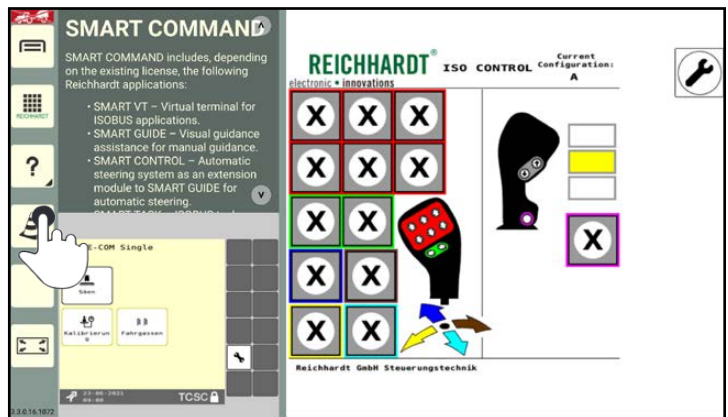

Fig. 80: Pressing and holding the application
1. Press and hold an application in the application overview or a shortcut on the sidebar (see Fig. 80).